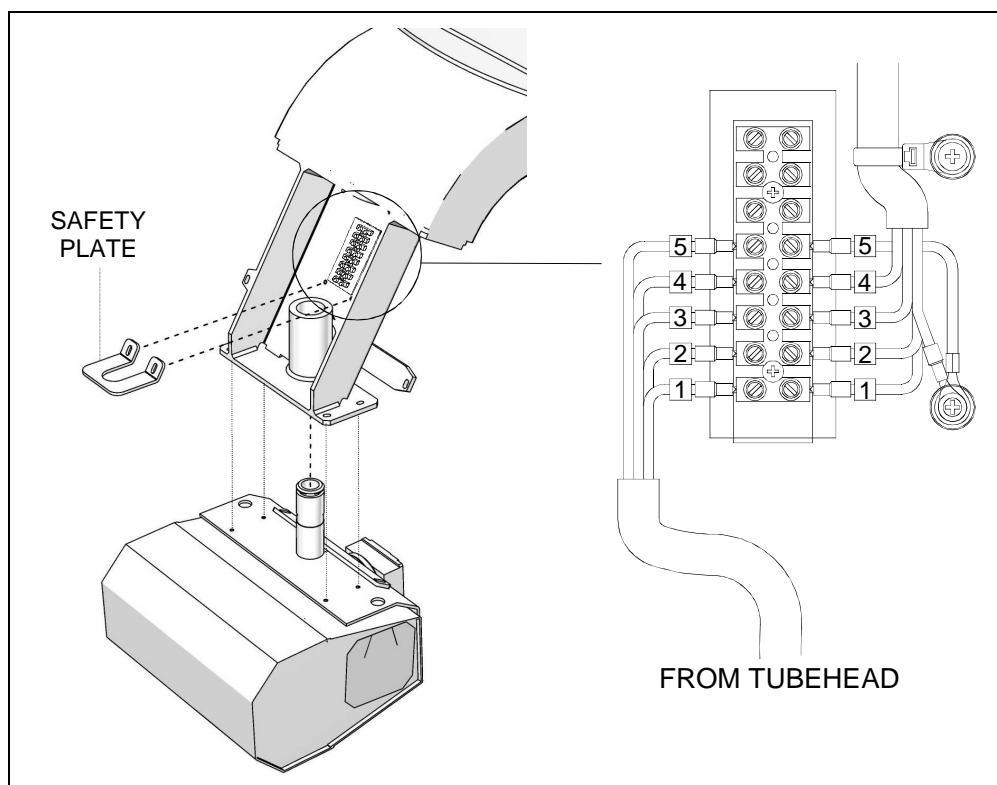
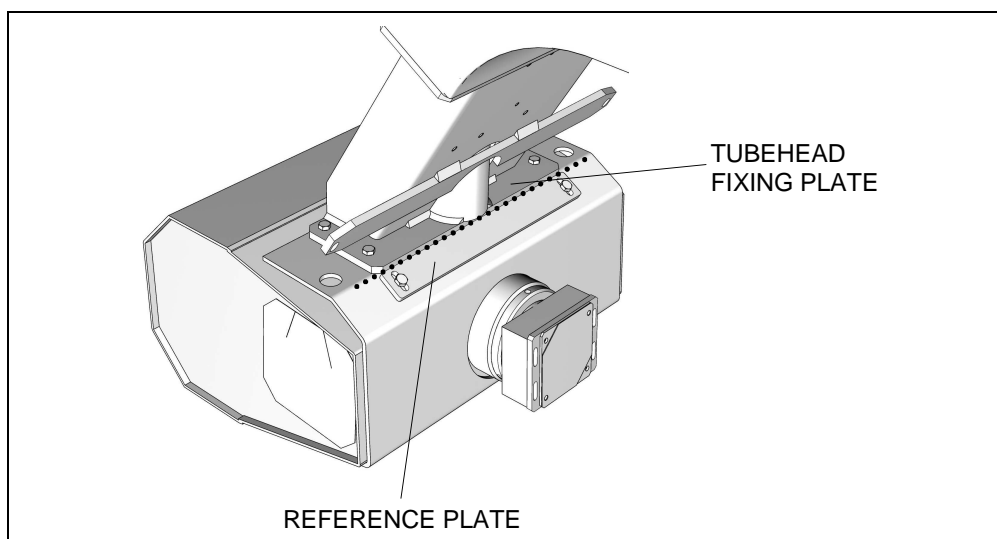

Figure 6-5
Figure 6-6
- 11.** Assemble the tubehead by first inserting the cables and then the pin into the fastening bushing; secure it with the safety plate (Figure 6-5). Fix the tubehead with the four screws so that the reference plate is fully in contact with the tubehead fixing plate (Figure 6-6). Wrong mounting will affect on the X-ray beam centering.
- 12.** Connect the wires to the terminal strip making reference to Figure 6-5.